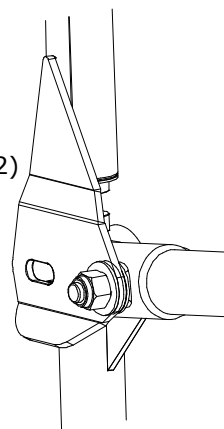
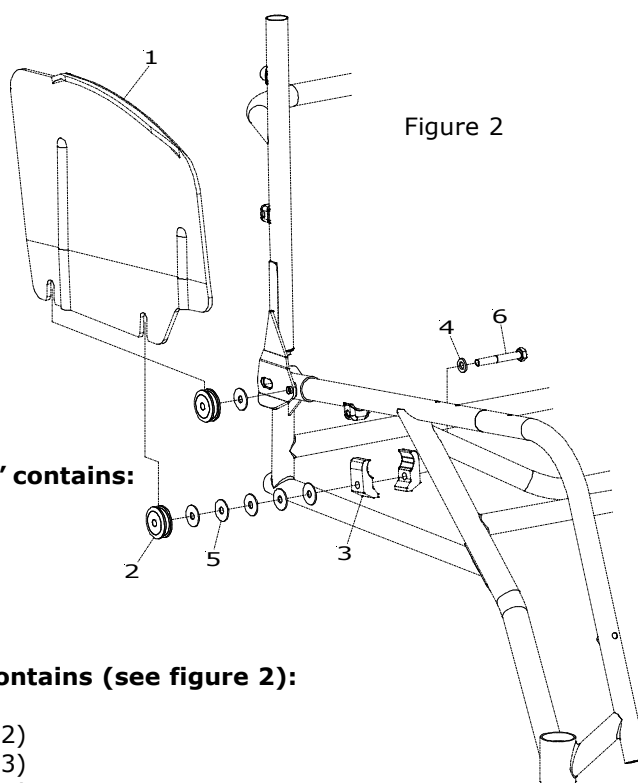

Figure 1
Figure 2
1. Start by unscrewing the nut located on the backrest frame bracket of your chair (figure 1) and replace it with a washer (5) and a cog fastener (2) as shown in figure 2. Tighten the cog fastener securely. (When you tighten the cog fastener you should use some form of threading lock, such as Loctite, to prevent the cog unscrewing to become loose).
2. Take both clamps (3) and place them around the seat tubing of the chair. Screw them in place loosely using the small washer (4), the bolt (6), the bigger washers (5) and a fastener cog (2). See figure 2.
3. Push the side guard (1) down into the cog fastener located on the backrest frame bracket and move the front cog fastener forwards or backwards until the side guard also fits into the front cog fastener.
5. When you have found a position where you can remove and insert the side guard easily and it is straight, tighten the bolt (6) securely.
"Attachments sideguards, complete" contains (see figure 2):